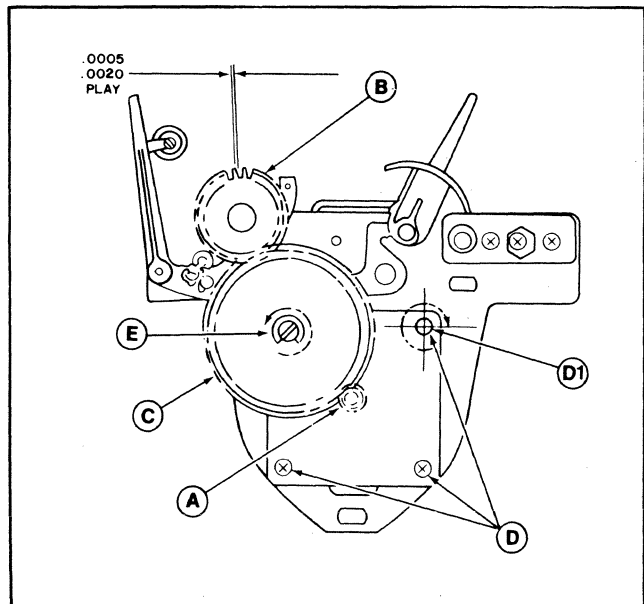

Figure 3-9. Paper Feed (Platen) Drive Adjustments
3.4.1.2.3 Paper Feed (Platen) Drive. Refer to Figure 3-9. With paper feed motor drive gear (A) locked, platen drive gear (B) must have a .0005 in. to .002 in. (.013 mm to .05 mm) play (total play includes idler gear (C)).